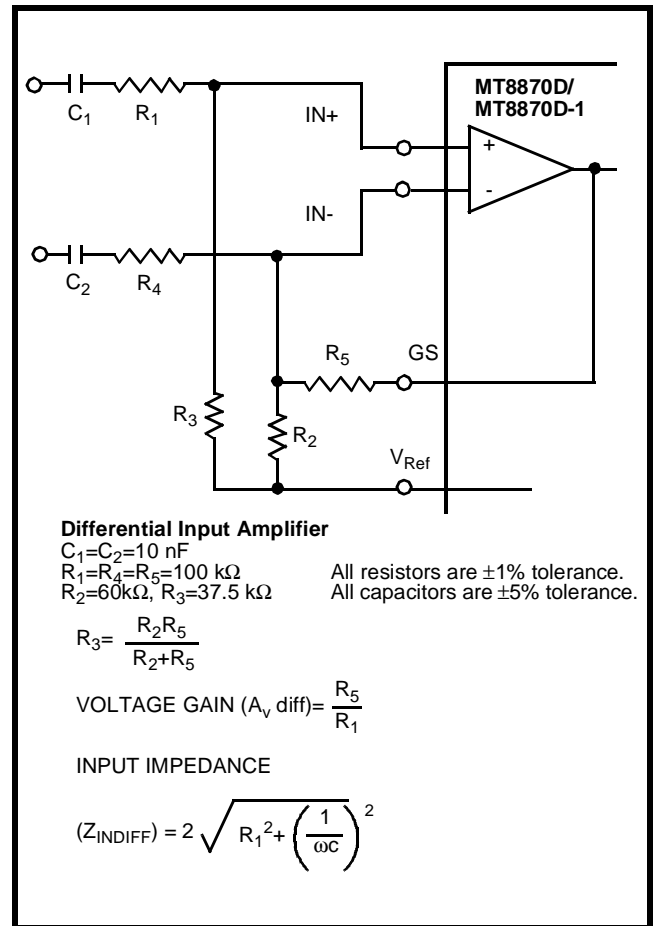

Figure 6 - Differential Input Configuration
The input arrangement of the MT8870D/MT8870D-1 provides a differential-input operational amplifier as well as a bias source ( $V_{Ref}$ ) which is used to bias the inputs at mid-rail. Provision is made for connection of a feedback resistor to the op-amp output (GS) for adjustment of gain. In a single-ended configuration, the input pins are connected as shown in Figure 10 with the op-amp connected for unity gain and  $V_{Ref}$  biasing the input at  $\frac{1}{2}V_{DD}$ . Figure 6 shows the differential configuration, which permits the adjustment of gain with the feedback resistor  $R_5$ .